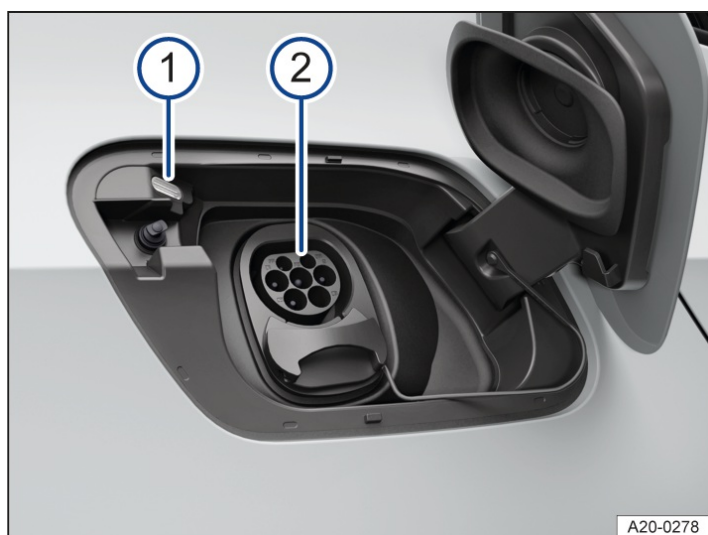

Fig. 1 Behind the charging socket flap at the rear right: charging socket.
Charging station, wall box, mains socket: The vehicle's high-voltage battery can be charged with alternating current (AC) via the top connection in the charging socket → Fig. 1 **2**.